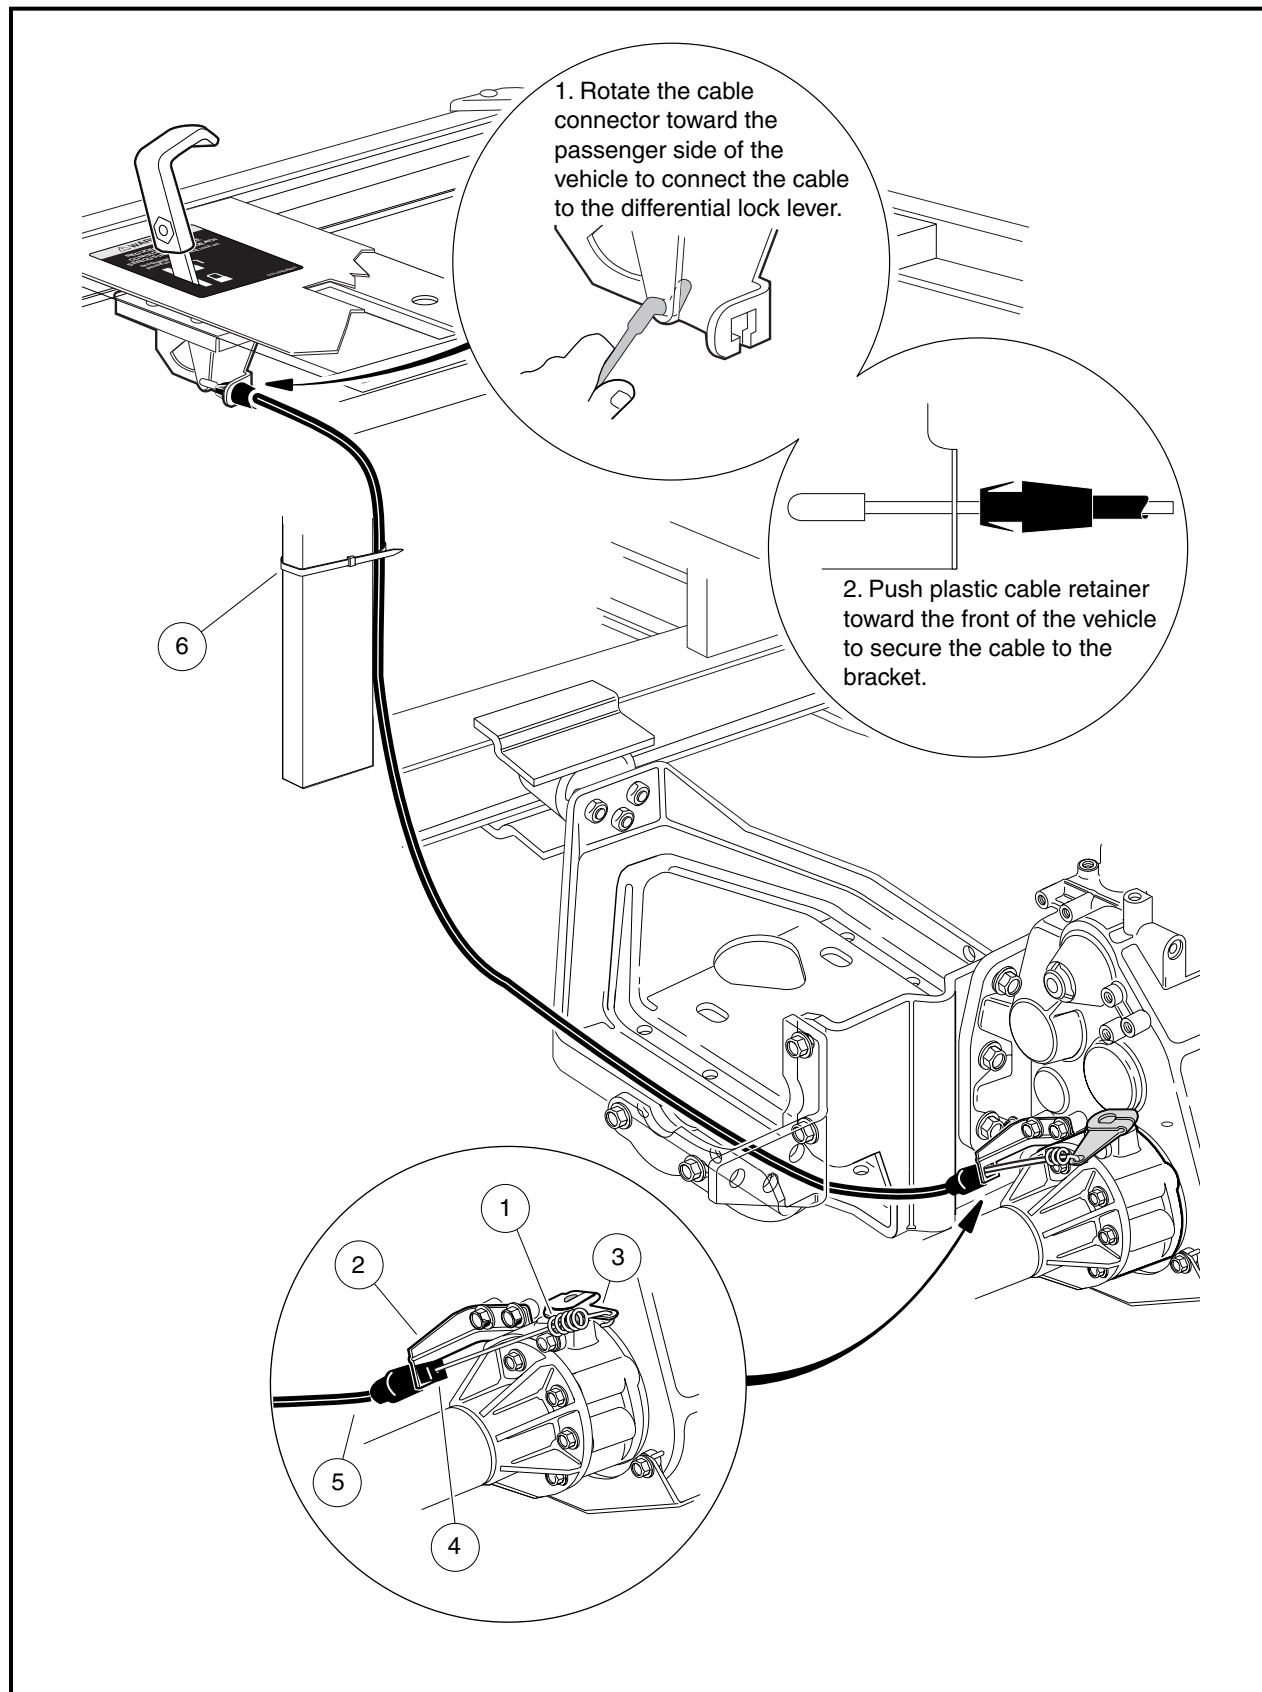

Figure 16-63 Differential Lock Cable Routing
- 33.4. Push the cable sheath toward the front of the vehicle to secure the cable to the bracket (**Figure 16-63, Page 16-28**).
2. Remove wire tie (6) securing the cable to the vertical support (**Figure 16-63, Page 16-28**).
6. Unhook the cable spring (1) from the differential lock arm (3) (**Figure 16-63, Page 16-28**).
7. Use a pair of pliers and apply pressure to the locking tabs of the cable end (4) where it attaches to the cable mounting bracket (2) at the transaxle.
8. Pull cable (5) toward the front of the vehicle to remove the cable from the bracket (2) and vehicle.
1. Route the cable through the engine mounting plate as illustrated (**Figure 16-63, Page 16-28**).
2. Route the cable spring (1) through the cable bracket (2).
3. Connect the differential lock cable spring end (1) to the differential lock arm (3) on the differential lock housing.
4. Push the cable (5) toward the rear of the vehicle in order to secure the cable to the bracket (2).
- 5.5. Secure the cable to the vertical support with a wire tie (6) (**Figure 16-63, Page 16-28**).